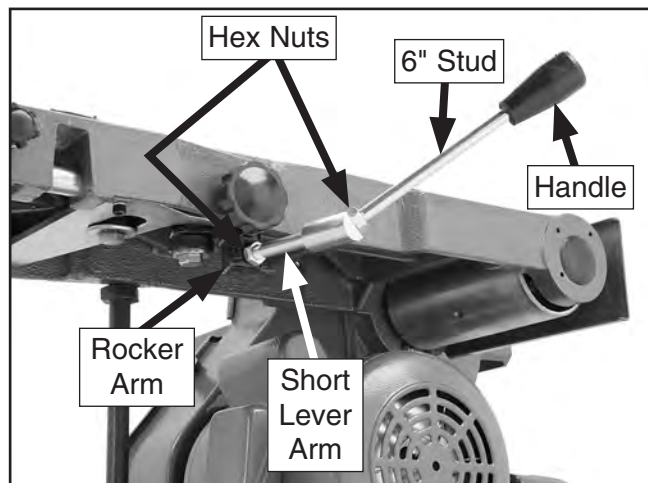

Figure 37. Quick release lever installed.
19. Assemble the quick release lever, as shown in **Figure 37**, using the handle, 6" quick release lever stud, short lever arm, and $\frac{3}{8}$ "-16 hex nuts, thread the assembly into the rocker arm, then tighten the hex nuts.